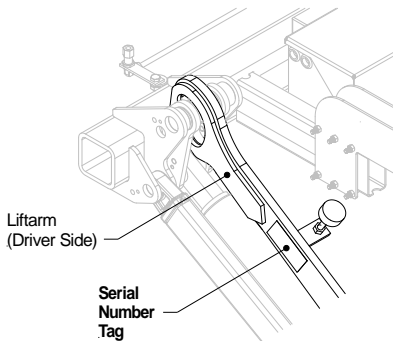

Fig.1
1) Refer to the serial number tag on the liftgate, the tag can be found on the street side liftarm, as shown in **Fig.1**.